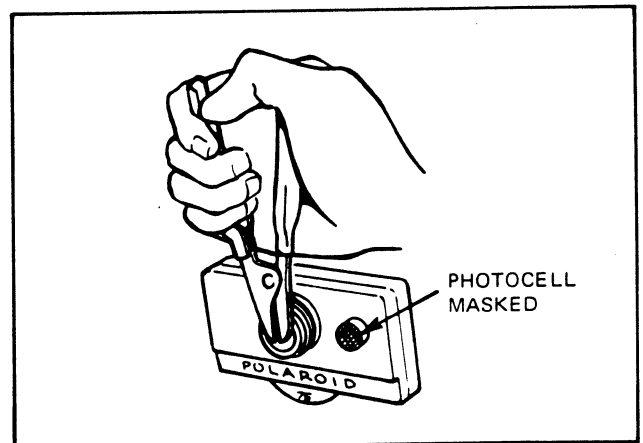

FIG. 5.53 REMOVING THE LENS MOUNT
8. Position tool #11007 in the lens mount (Figure 5-53). Squeeze the handle until the tool is firmly seated against the mount and